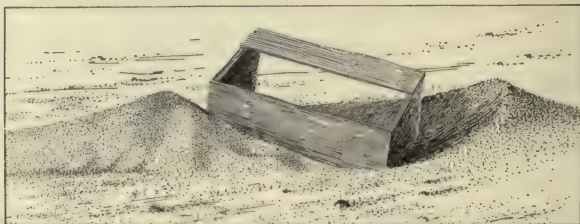

FIG. 259. — Accumulation of sand about an object which breaks the wind.
**Dunes.** — Sand particles which are too heavy to be lifted are rolled and dragged along the ground until they meet an obstacle, such as a bush, a log, or a stone, which hinders their progress. There they lodge, forming mounds and hills (Fig. 257). In deserts and sandy valleys and on sea beaches, the ridges and mounds of wind-deposited sand are large and numerous and are called dunes (Fig. 258). In the dry regions of Kansas and Nebraska, on the sandy shores of Lake Michigan, and along the New Jersey coast dunes are seen everywhere. Anything that serves as an obstacle to wind-blown sand causes dunes. Figure 259 shows how a box can be the origin of a dune.